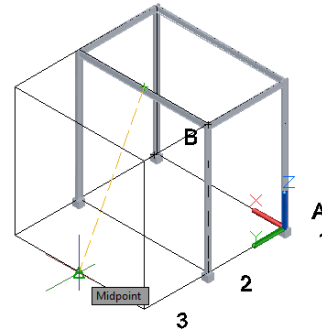
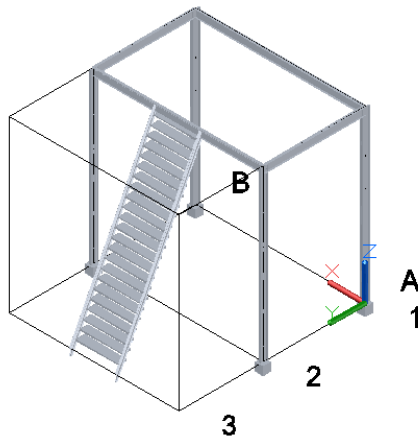

Figure 3-43 Model after adding footings
Figure 3-44 Model after creating stairs
5. Select the midpoint of the bottom grid line, as shown in Figure 3-43; a line is placed between the two specified points. Press ENTER to create the stairs on the specified line, as shown in Figure 3-44.